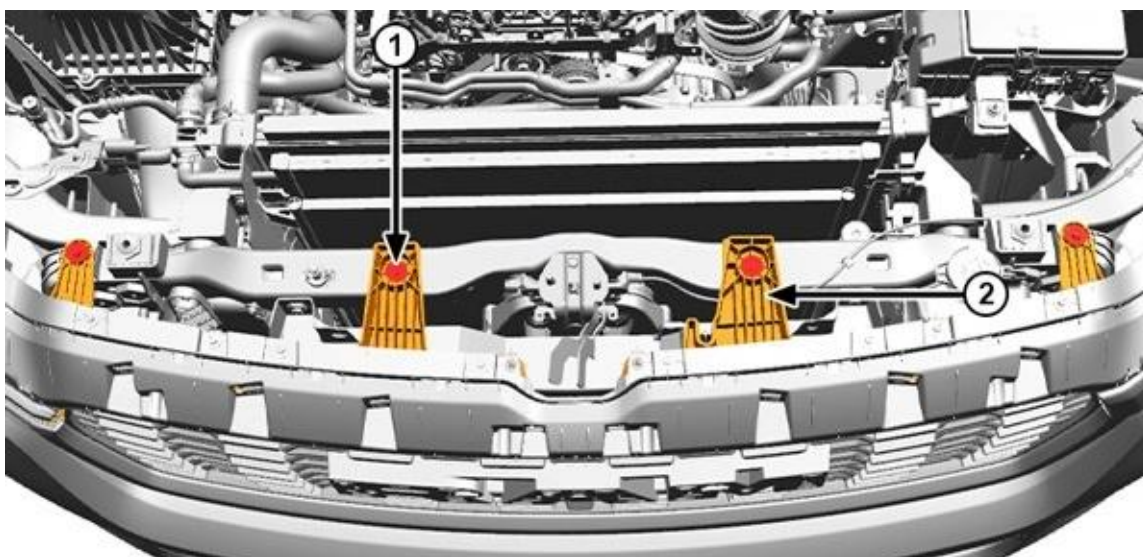

Figure B12 – Upper Grille Carrier
17. Remove and **DISCARD** the bolts from the upper side of the grille carrier (Figure B12).
18. Lift up on the outer tabs to release the grille carrier from the radiator support (Figure B12).
41. Install **NEW** bolts to the upper side of the grille carrier and tighten to 5 N·m (44 In. Lbs.) (Figure B12).